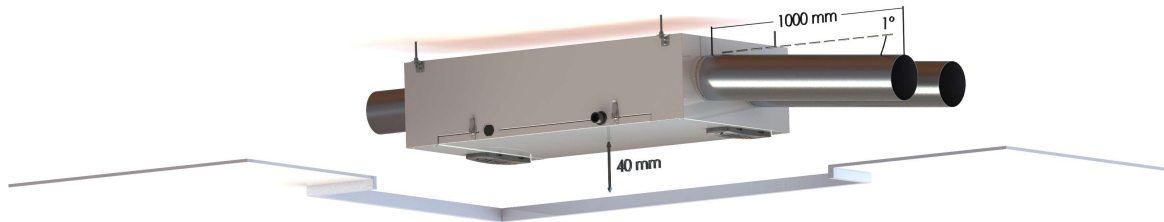

Figure 4. Air intake duct connection diagram
**IMPORTANT!** At least 1° ventilation duct incline (refer to Figure 4 "Air intake duct connection diagram") should be ensured or other sufficient measures taken to prevent ingress of outdoor humidity or precipitation into the Unit.